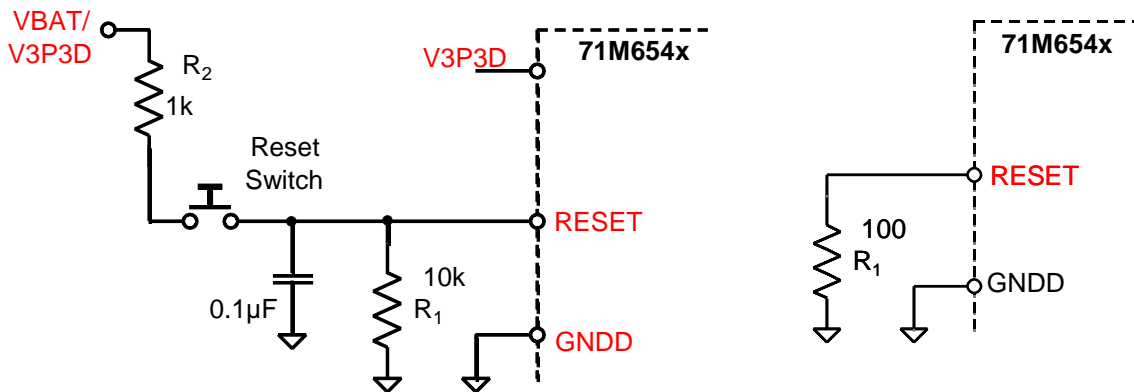

Figure 42: External Components for the RESET Pin: Push-Button (Left), Production Circuit (Right)
Even though a functional meter does not necessarily need a reset switch, it is useful to have a reset pushbutton for prototyping as shown in Figure 42, left side. The RESET signal may be sourced from V3P3SYS (functional in MSN mode only), V3P3D (MSN and BRN modes), or VBAT (all modes, if a battery is present), or from a combination of these sources, depending on the application.
- ✓ For a production meter, the RESET pin should be protected by the external components shown in Figure 42, right side. R1 should be in the range of 100 Ω and mounted as closely as possible to the IC.
Since the 71M6541D/F/G and 71M6542F/G generate their own power-on reset, a reset button or circuitry, as shown in Figure 42, is only required for test units and prototypes.